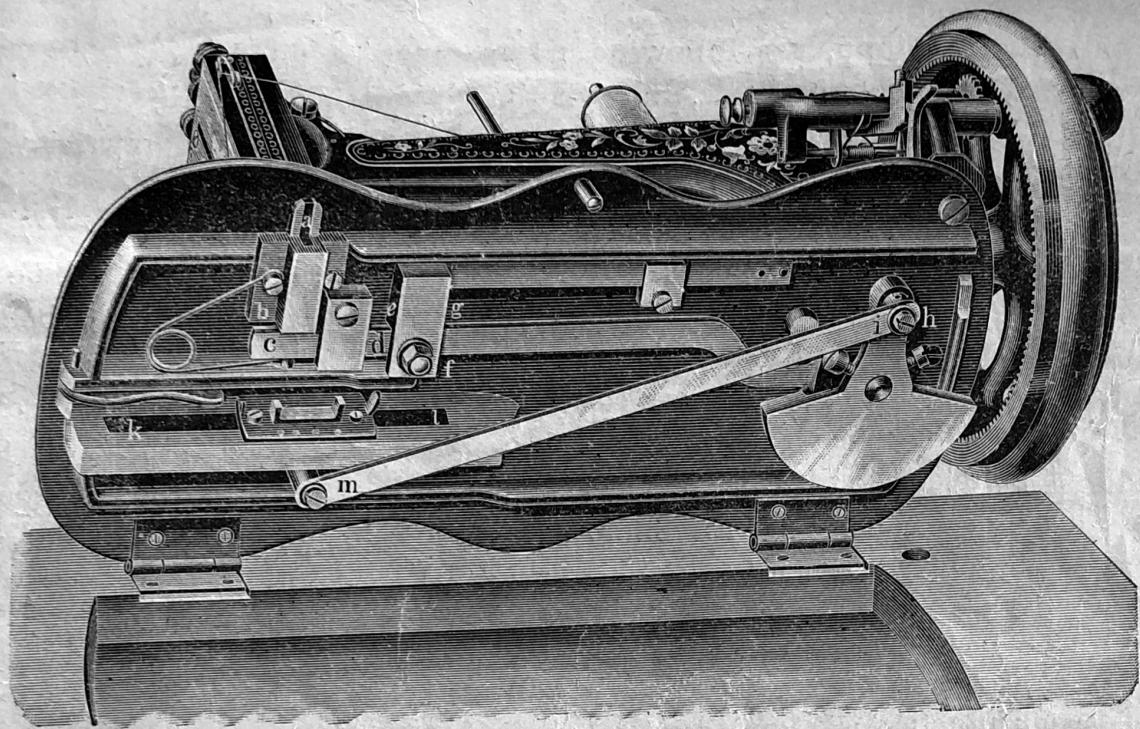

Fig. 3.
- Fig. 3, the bearing of the feed-lever rod d,